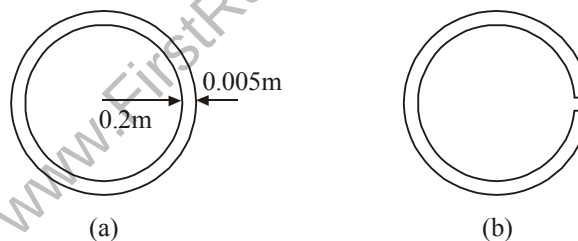

Fig. 2
- Consider a thin-walled tube with the cross-section shown in Figure. 2. The wall thickness is $t=0.005\text{m}$ and the average radius is 0.2025m . Also consider a same tube with cut open as shown in Figure 2(b). Compare the torsional rigidities of these two tubes. Comment on your answer.